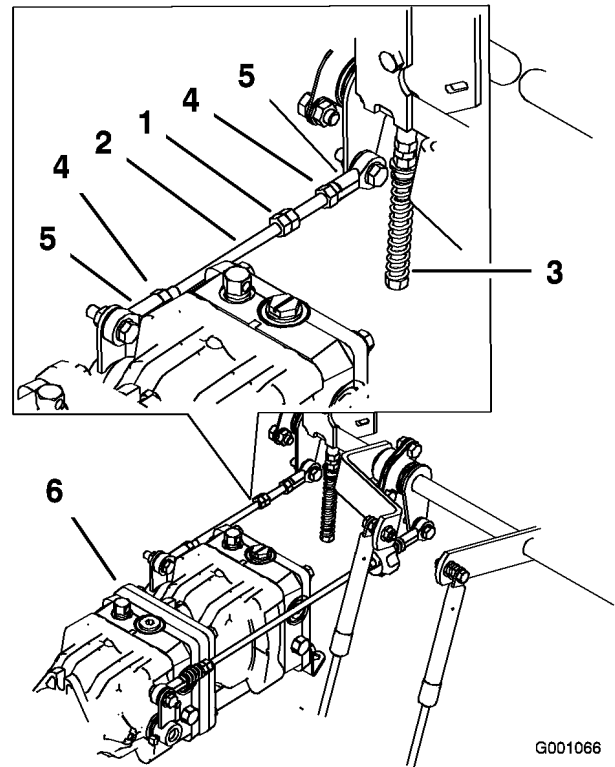

Figure 71
1. Loosen the locknuts at the ball joints on the pump control rod (Figure 71).
3. Adjust the pump rod length by rotating double nuts on rod, in the appropriate direction, until wheel is still or slightly creeps in reverse (Figure 71).
6. Tighten the locknuts at the ball joints (Figure 71).